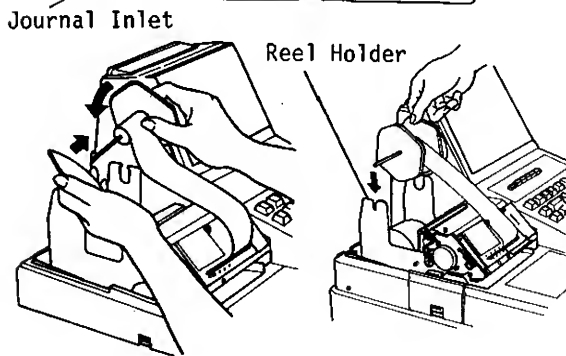

Fig. 10
6. When the paper comes out for an enough length, wind the paper end on the Journal Winding Reel two or three times, and set the Journal Winding Reel to the Reel Holder. (Fig. 10)